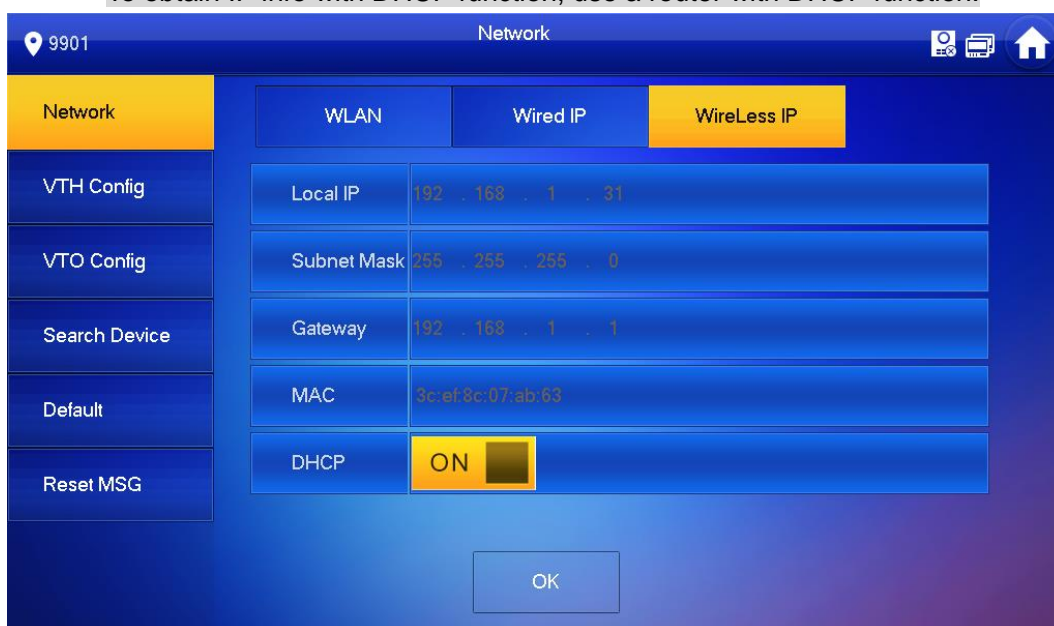

Figure 2-11
- ◇ At "WLAN" interface, select WIFI, click "Wireless IP" tab, press ☐ OFF to enable DHCP function and obtain IP info automatically, as shown in Figure 2-11.